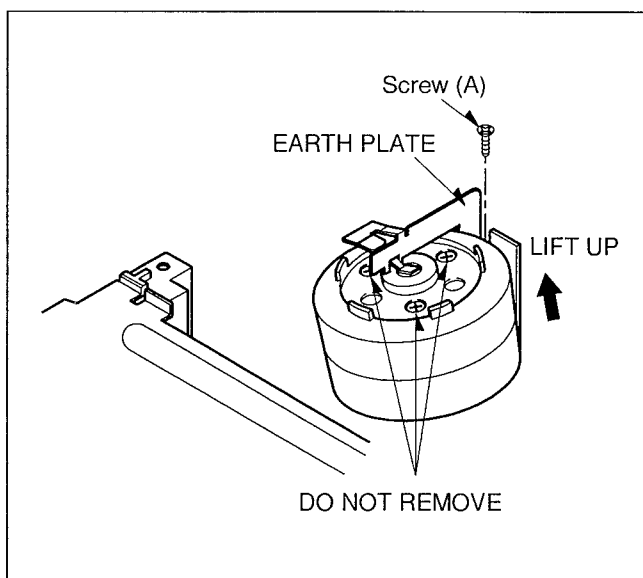

Fig. S4
- 4) Remove the Screw (A) and Earth Plate. (Fig. S4)
- 5) Remove the 3 screws (E) of the Cylinder Unit with a magnetized screw driver.